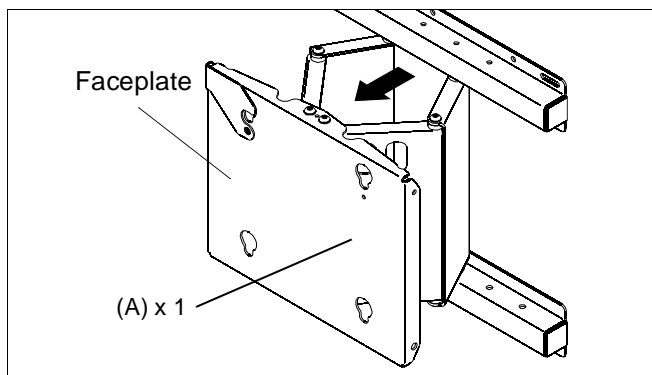

Figure 6
3. Move mount faceplate to extended position by grasping faceplate and pulling outward away from wall. (See Figure 6)